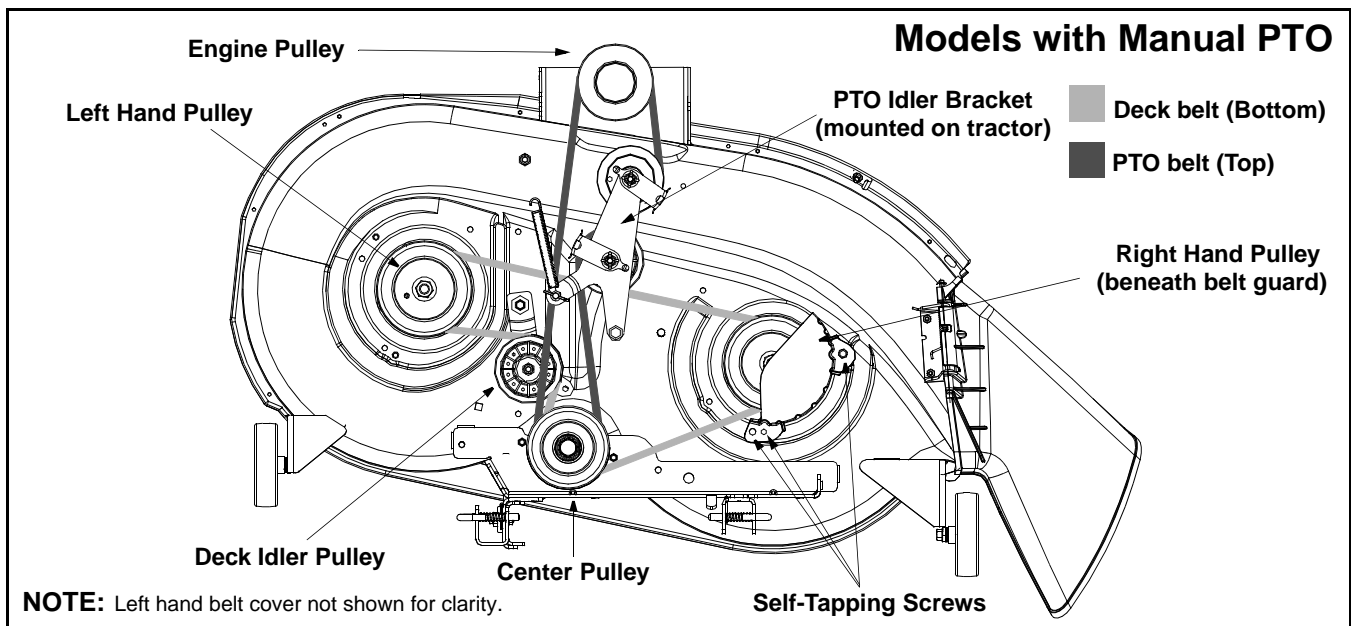
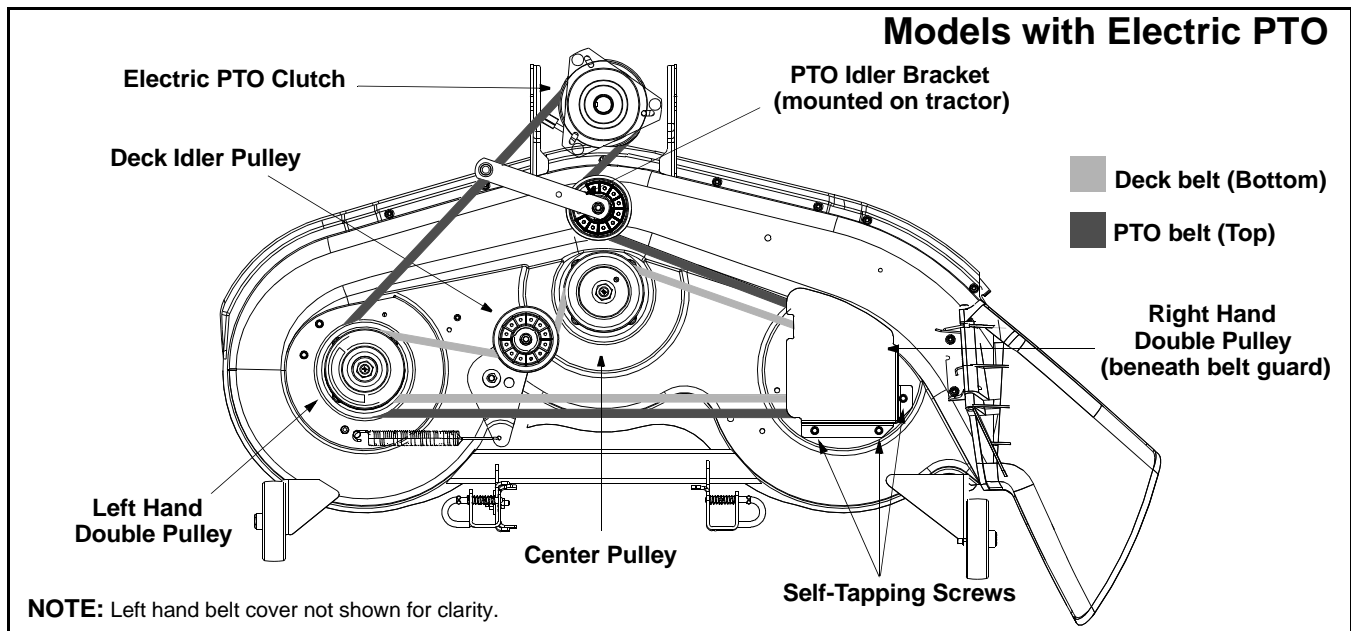

Figure 25
Figure 26
- Route the new belts as shown in Figure 25 and Figure 26.